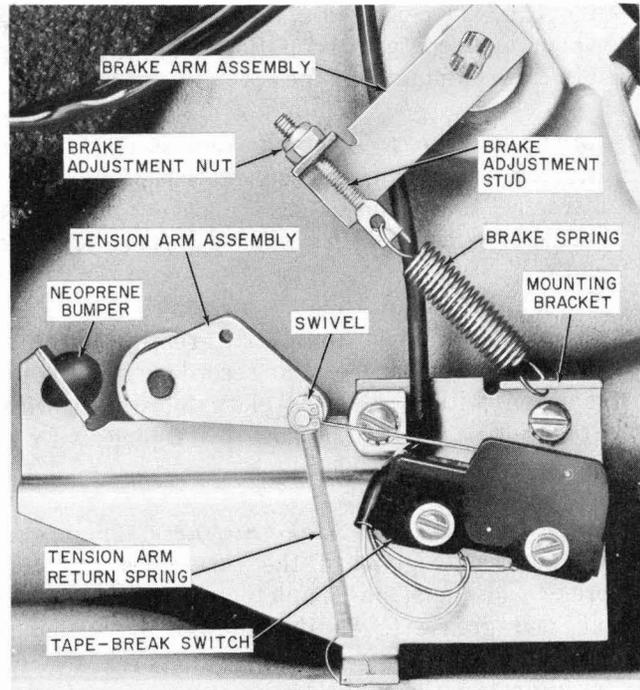

Fig. 13—Rear Components of Take-Up Brake and Tension Arm Assembly
(1) Adjust the brake adjustment nut (Fig. 13) as described in (a)(1).
(2) Obtain rough measurement of brake tension as described in (a)(2), *except* that the
hook of the spring balance shall be hooked at the end of the brake arm and at a point directly below the brake adjustment nut (Fig. 13) and that the vertical pull required shall be 1.7 pounds.
- (3) Make final tension adjustment as described in (a)(3), except refer to Fig. 13 for view of brake components.